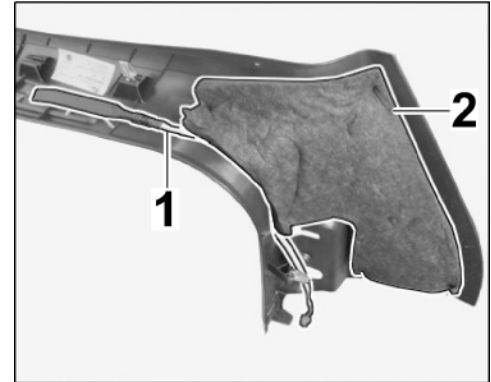

Figure 24
- 3.3.4 Lift up insulation material and affix flat-conductor web on underside of A-pillar trim panel (lower). ⇒ *Figure 24*